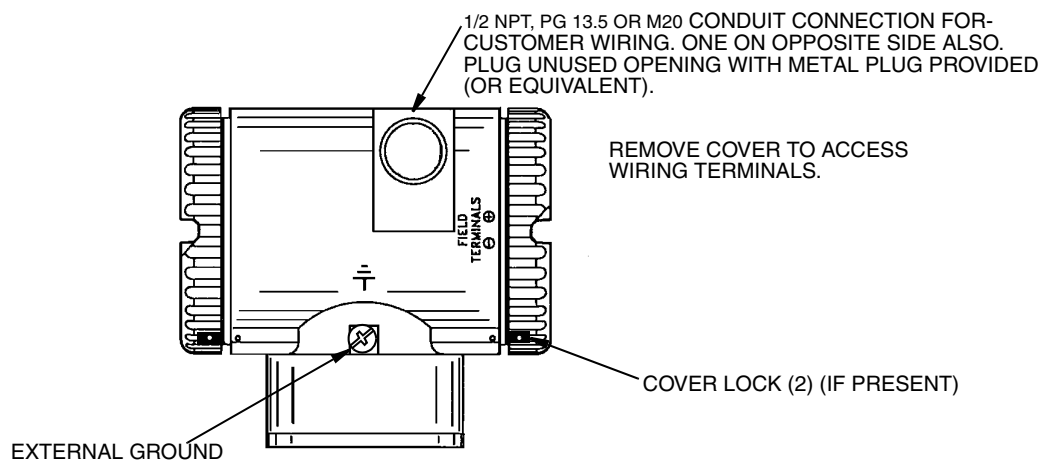

Figure 30. Accessing Field Terminals
Electronic housing cover locks, shown in Figure 30, are provided as standard with certain agency certifications and as part of the Custody Transfer Lock and Seal option. To lock the covers, unscrew the locking pin until approximately 6 mm (0.25 in) shows, lining up the hole in the pin with the hole in the housing. Insert the seal wire through the two holes, slide the seal onto the wire ends and crimp the seal.
For access to the field terminals, thread the cover lock (if present) into the housing to clear the threaded cover and remove the cover from the field terminals compartment as shown in Figure 30. Note that the embossed letters **FIELD TERMINALS** identify the proper compartment.
2. Run signal wires (0.50 mm² or 20 AWG, typical) through one of the transmitter conduit connections as shown in Figure 30. Use twisted pair to protect the 4 to 20 mA output and/or remote communications from electrical noise. Maximum recommended length for signal wires is 1800 m (6000 ft)
2. Run the supply voltage and output wires (0.50 mm² or 20 AWG, typical) through one of the transmitter conduit connections as shown in Figure 30. If four-wire connection is used, use twisted single pair on the output side to protect the 1 to 5 V dc output from electrical noise.